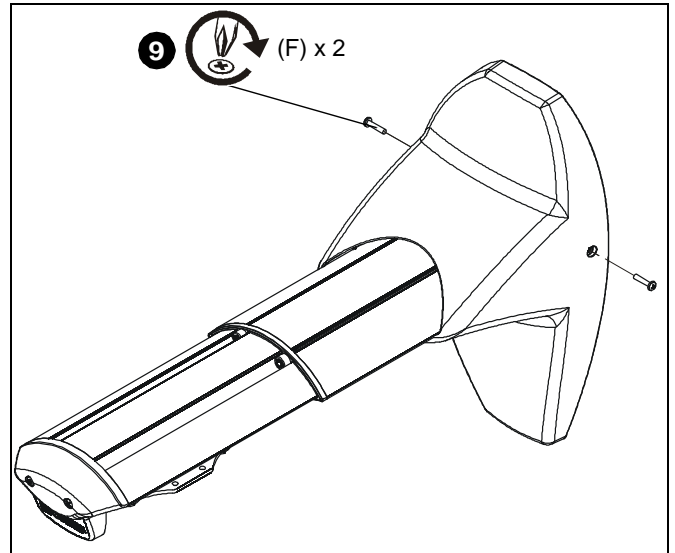

Figure 21
8. Slide outer cover of mount (A) back against mounting bracket.
9. Reinstall two #8-32 x 3/4" Phillips pan machine screws (F) through holes on sides of outer cover. (See Figure 21)